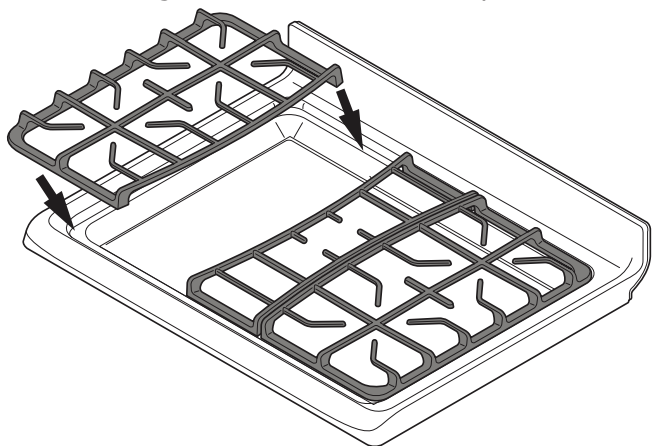

Figure 4: Gently move cap for proper placement
- Make sure the burner grates are properly placed on the cooktop before using the surface burners (Figure 4). The grates are designed to rest inside the recess on the cooktop.